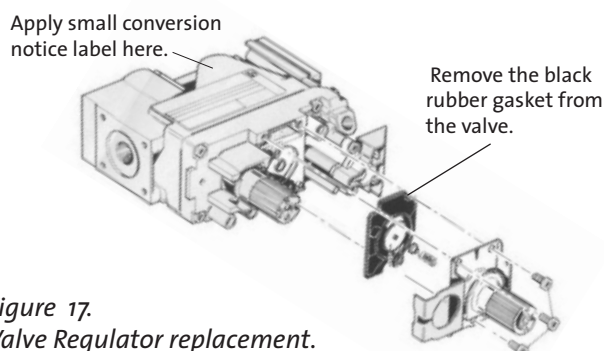

Figure 17. Valve Regulator replacement.
**7. Change the Regulator:** See Fig. 17.